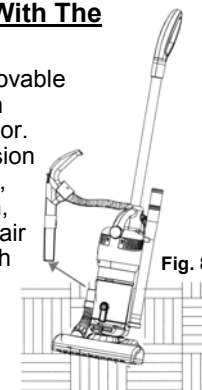

Fig. 8
- Attach the extension tube, crevice tool, the dusting brush, pet hair brush or air driven turbo brush to the end of the hose. (Fig. 8)